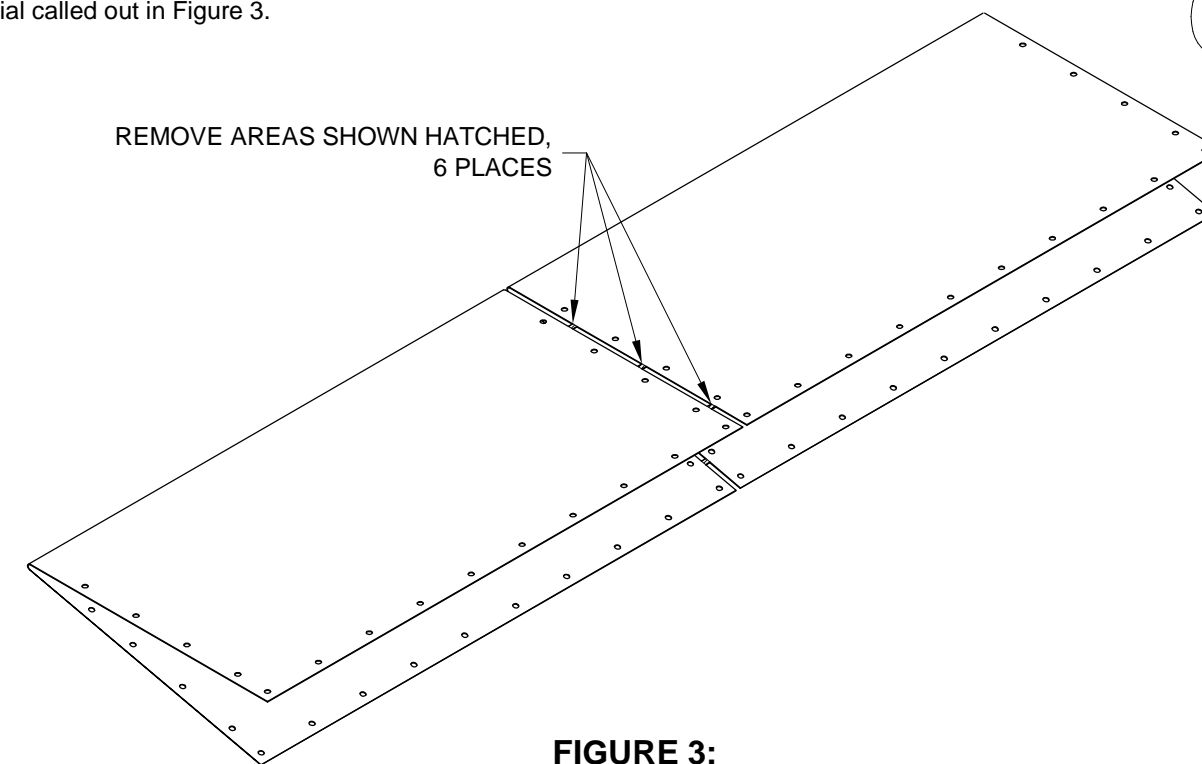

FIGURE 3:
Step 6: Separate the HS-1217 Aft Skins by removing the material called out in Figure 3.